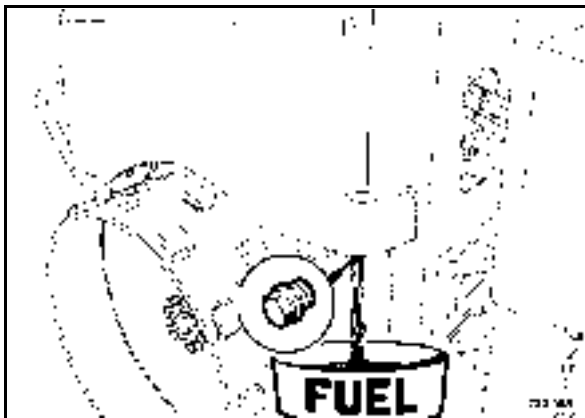

Fig. 115
- Place the suitable container under the fuel tank drain plug(Fig. 115).